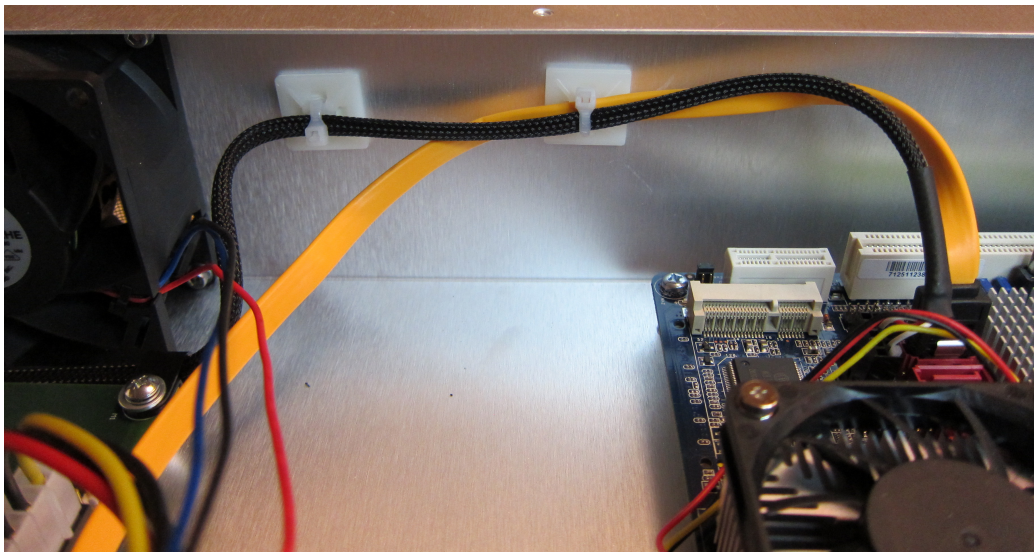

Figure 39: Installation of zip ties to locate power switch and SATA cables.
6. Using two 3.75" tie wraps (1768121), tie power switch and SATA cables as illustrated in Fig. 39.